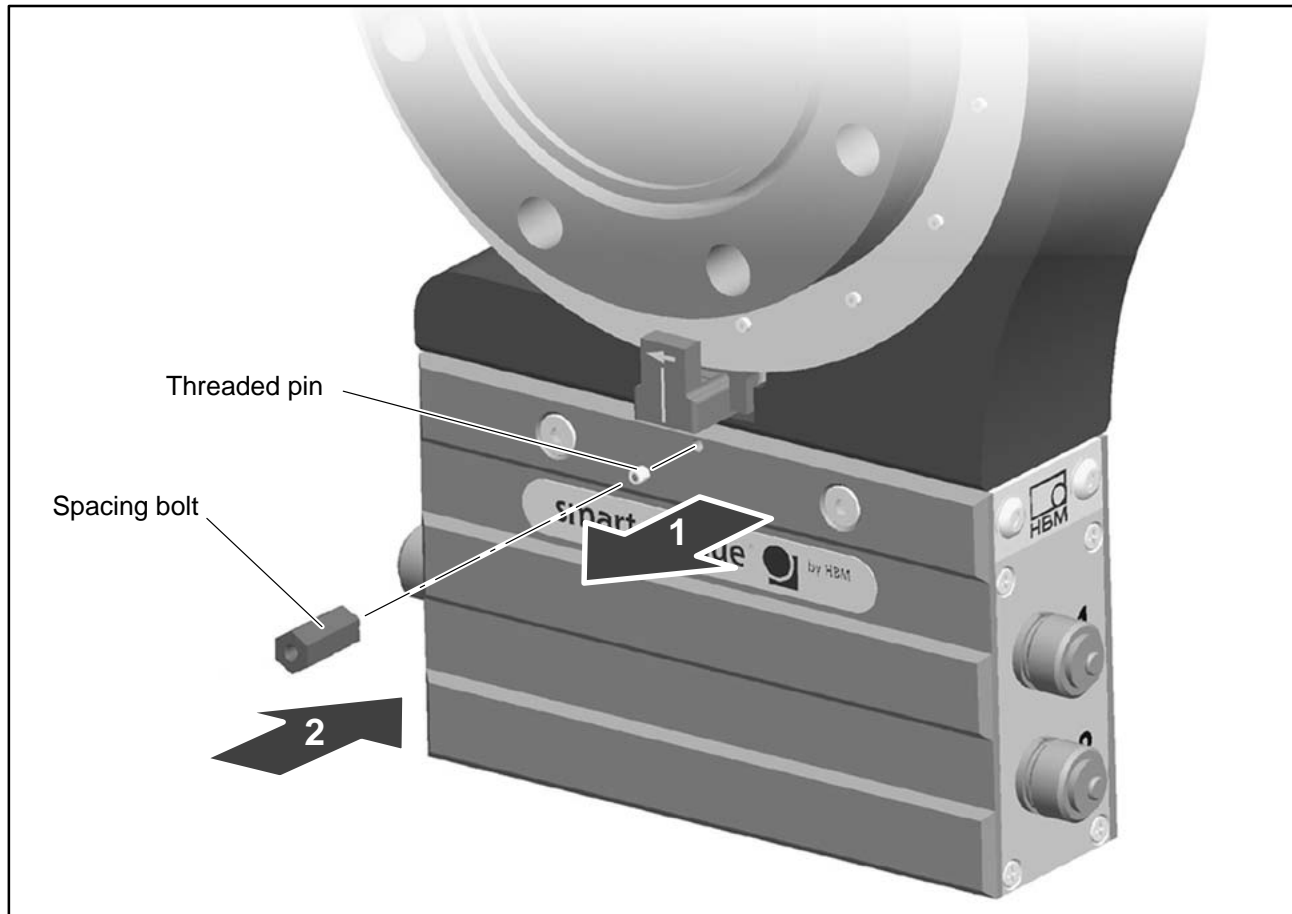

Fig. 6.6: Fitting the spacing bolt (for 5 kN·m and 10 kN·m only)
3. **For 5 kN·m and 10 kN·m measuring ranges only:** remove the threaded pins from the tapped holes on both sides of the stator. Screw the spacing bolt into the tapped hole on the side of the speed sensor (see Fig. 6.6).